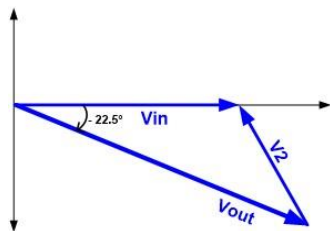

Figure 5: Voltage Phasor Diagram
Using equation (6), **Figure 5** shows the voltage phasor diagram.